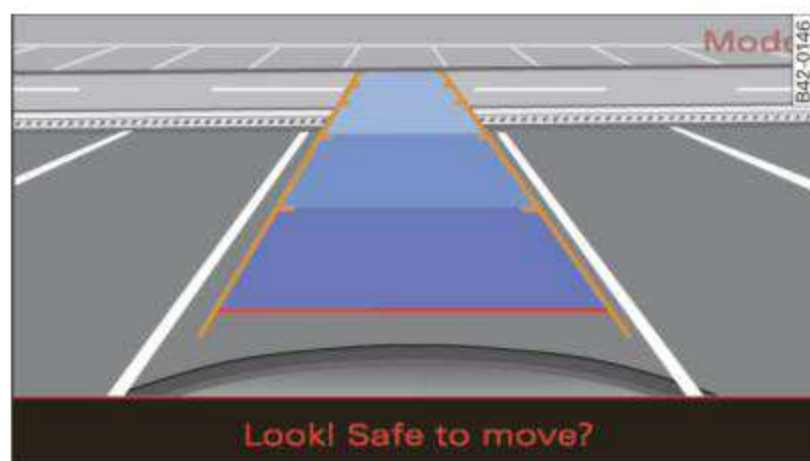

Fig. 78 Navigation system display: Aligning the vehicle
- Turn the steering wheel until the orange orientation lines ① appear in the parking spot. Use the markings ② to help you estimate the distance from an obstacle. Each marking corresponds to 1 meter.
- While driving in reverse gear, adjust the steering wheel angle to fit the parking space with the aid of the orange orientation lines ⇒ !. ③ marks the rear bumper. You should stop driving in reverse when the red orientation line ④ meets an object, at the latest ⇒ !.
- Align your vehicle to correspond with the blue area ⇒ fig. 78. The blue area represents an extension of the vehicle's outline by approximately 5 m to the rear. The distance of the differently shaded areas to the vehicle are approximately 1, 2 and 5 meters.